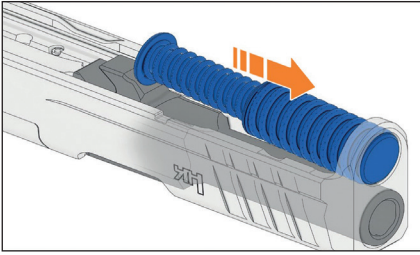

Figure 26 – Insert recoil spring assembly
3. Insert recoil spring assembly into slide (Fig. 26).